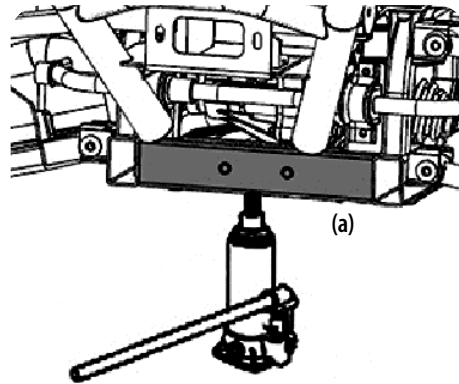

Figure 5-7
1. Jack up the front end of the utility vehicle on the front frame tube (a) only. See Figure 5-7.